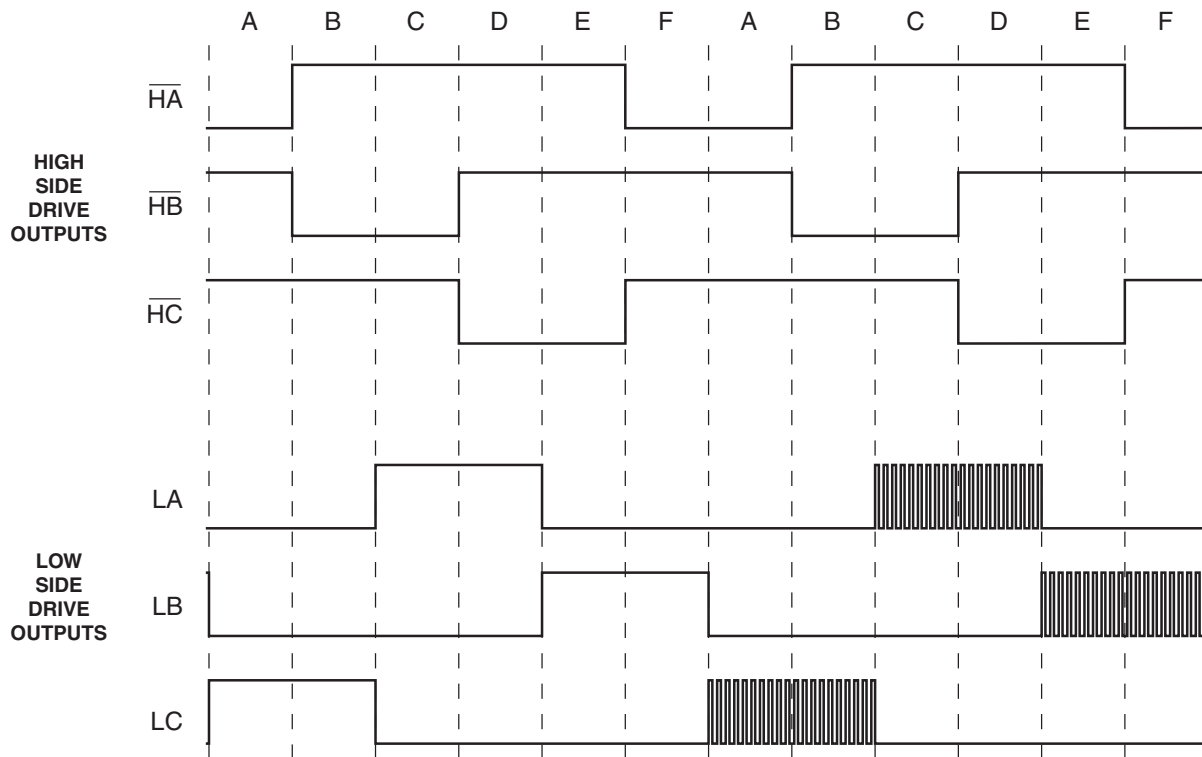

Figure 4. Output Commutation Sequence Timing Diagram
2. For explanation of states, see Figure 4 and Table 1.
A 3-phase BLDC motor requires electronic commutation to achieve rotational motion. Electronic commutation requires the switching on and off of the power switches of a 3-phase half bridge. For torque production to be achieved in one direction, the commutation is dictated by the rotor position. Electronic commutation in the ML4425 is achieved by turning on and off, in the proper sequence, one N output from one phase and one P output from another phase. There are six combinations of N and P outputs (six switching states) that constitute a full commutation cycle. These combinations are illustrated in Table 1 and Figure 4, and are labeled states A through F. This sequence is programmed into the commutation state machine. Clocking of the commutation state machine is provided by a voltage controlled oscillator (VCO).